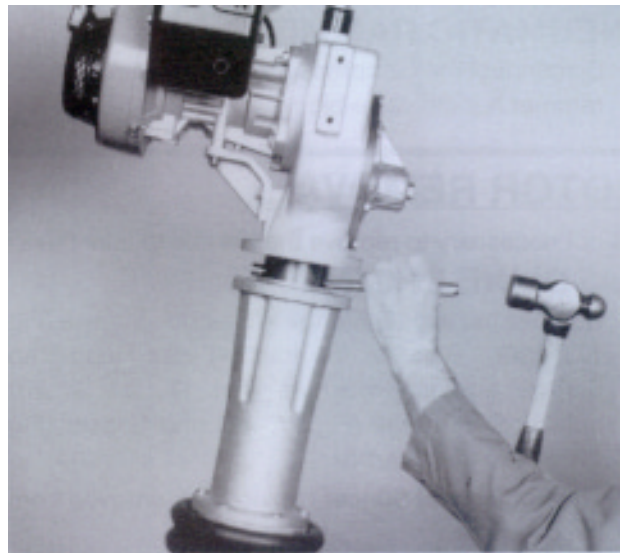

FIGURE 2
3. Push the Guide Tube (Fig 10, #3) down until it exposes the Ram Head and Piston Pin (Fig 7, #27). While holding the Gearbox, tap out the Piston Pin with a hammer and drift pin. The Gearbox may now be removed from the Lower System. See Figure 2.